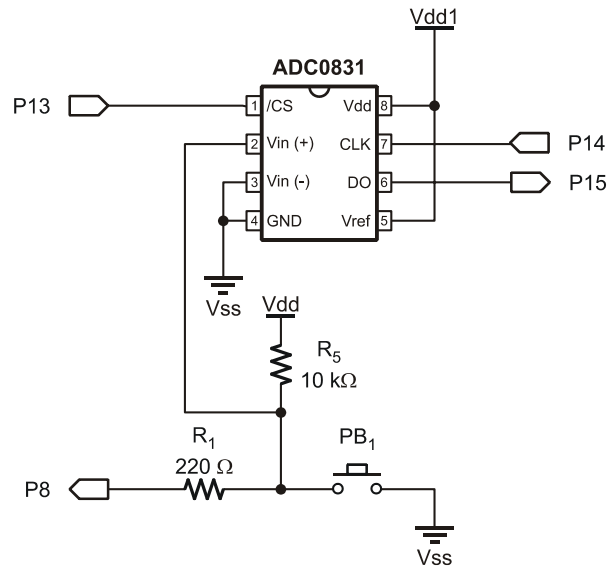

Figure 3-26
3. Your circuit should look like Figure 3-26. Pressing the button after reconfiguring should have caused the digital plot to go low.